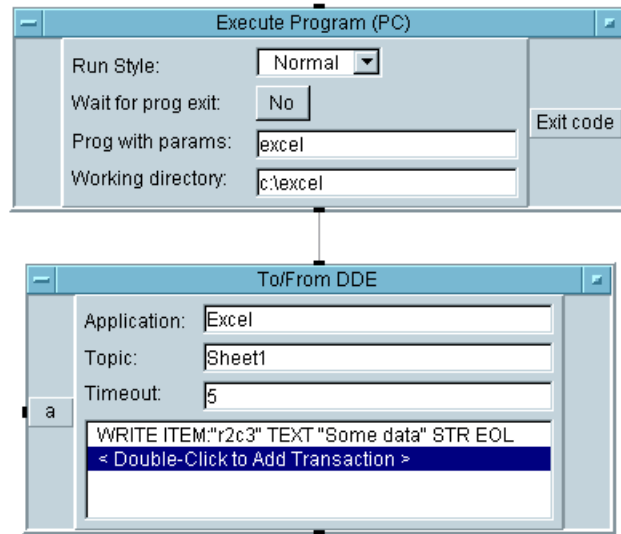

**Figure 4-30. Execute PC before To/From DDE**
If the executable file's directory is not in your `PATH`, use an `Execute Program (PC)` object before the `To/From DDE` object to run the application program, as shown in Figure 4-30.